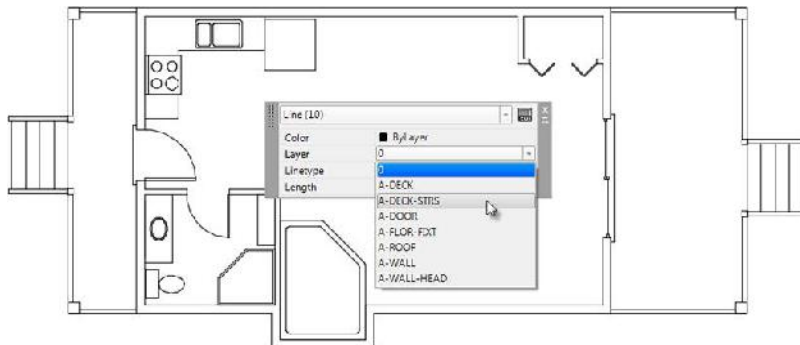

FIGURE 6.22: Assigning the objects to the A-DECK-STRS layer
5. Click in the Layer field. Then click to expand the Layer drop-down list and choose the A-DECK-STRS layer, as shown in Figure 6.22.